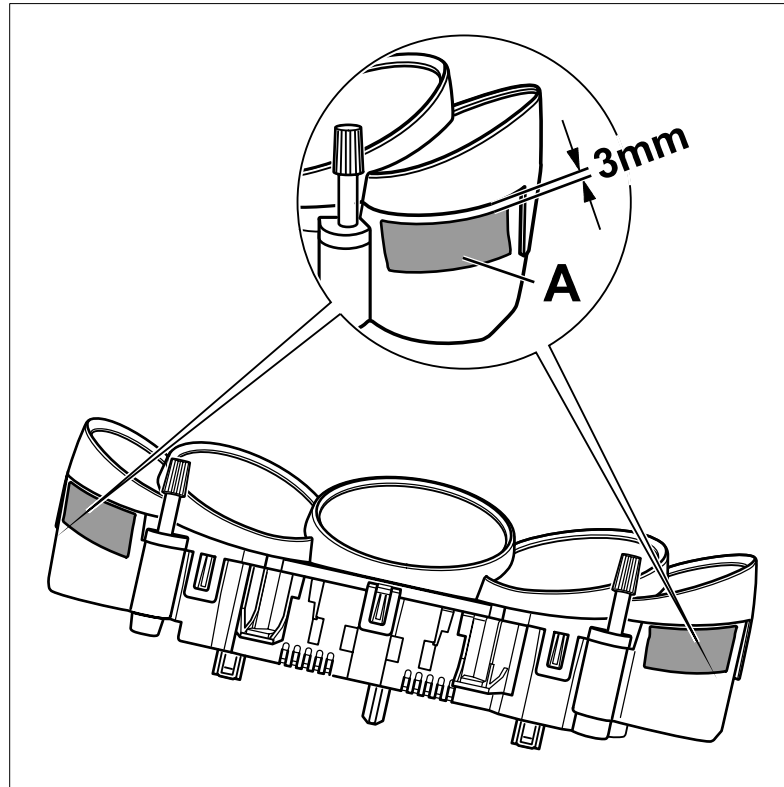

Figure 2
- 3.4 As shown in the ⇒ *Figure 2 -Inset-*, attach the felt (⇒ *Figure 2 -Inset, Item A-*) to one side of the instrument cluster approx. 2 to 3 mm from the decorative ring.